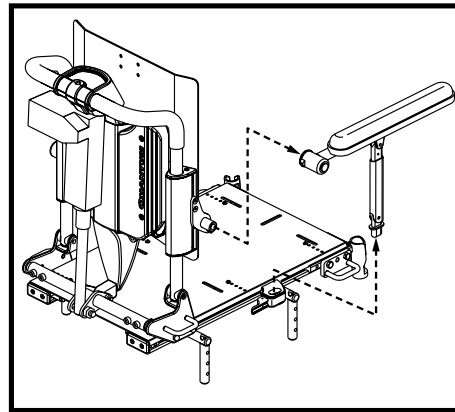

Figure 16. Armrest Removal
3. Pull up and out on the armrest to remove it from the seat. See figure 16.